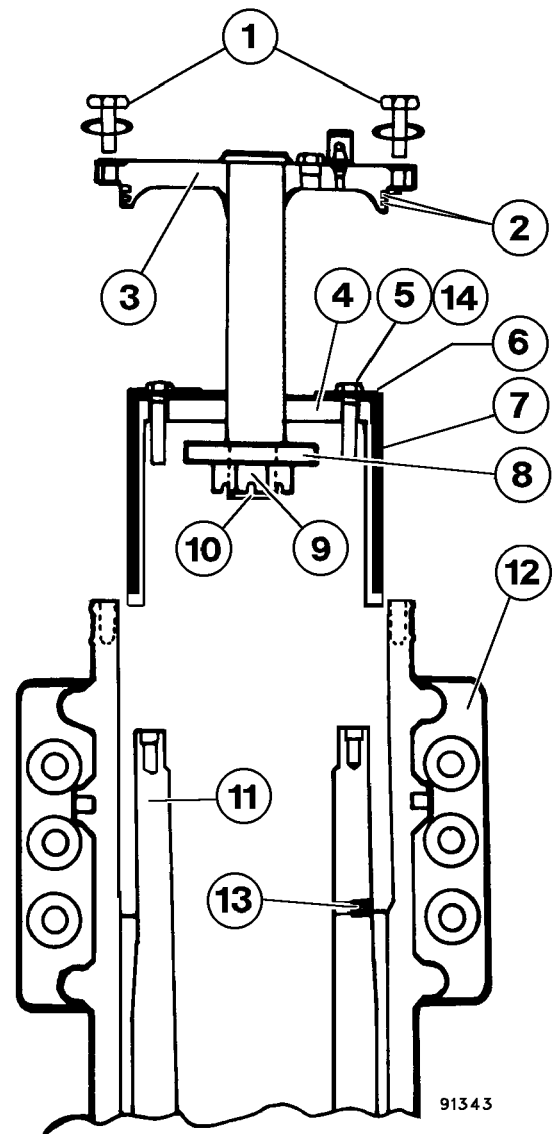

FIGURE 2-7. PISTON ROD REMOVAL
1. With suspension held in a vertical position (end cap up), remove capscrews and hardened washers (1, Figure 2-7). Attach hoist to end cap (3) and lift end cap out of suspension housing (12) until spacer (8) contacts bearing retainer (4). Remove capscrews (5). Lift end cap (3) and bearing retainer from housing (12).
2. Remove roll pin (10), nut (9) and spacer (8). Separate end cap and bearing retainer. Remove O-rings and backup rings (2).
4. Attach lifting device to the piston (11, Figure 2-7) and carefully lift out of housing (12).